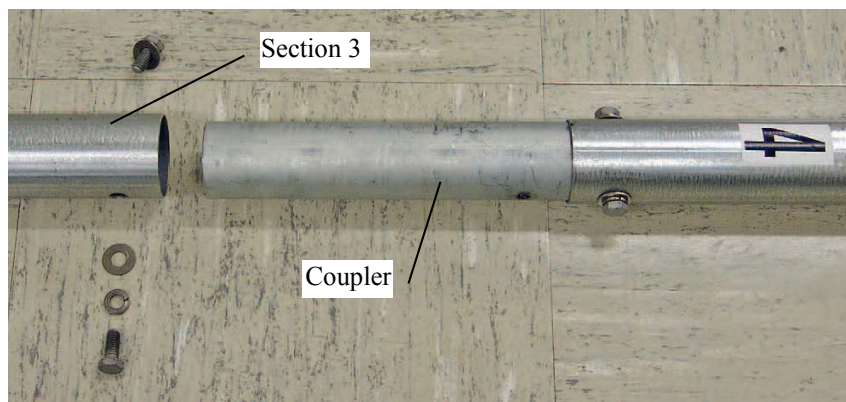

FIGURE 3-13. Mast Section 4 ready to be installed in mast Section 3
Step 11: Slide coupler end of Section 4 into the top of Section 3, and secure with remaining components from hardware bag (see FIGURE 3-13).